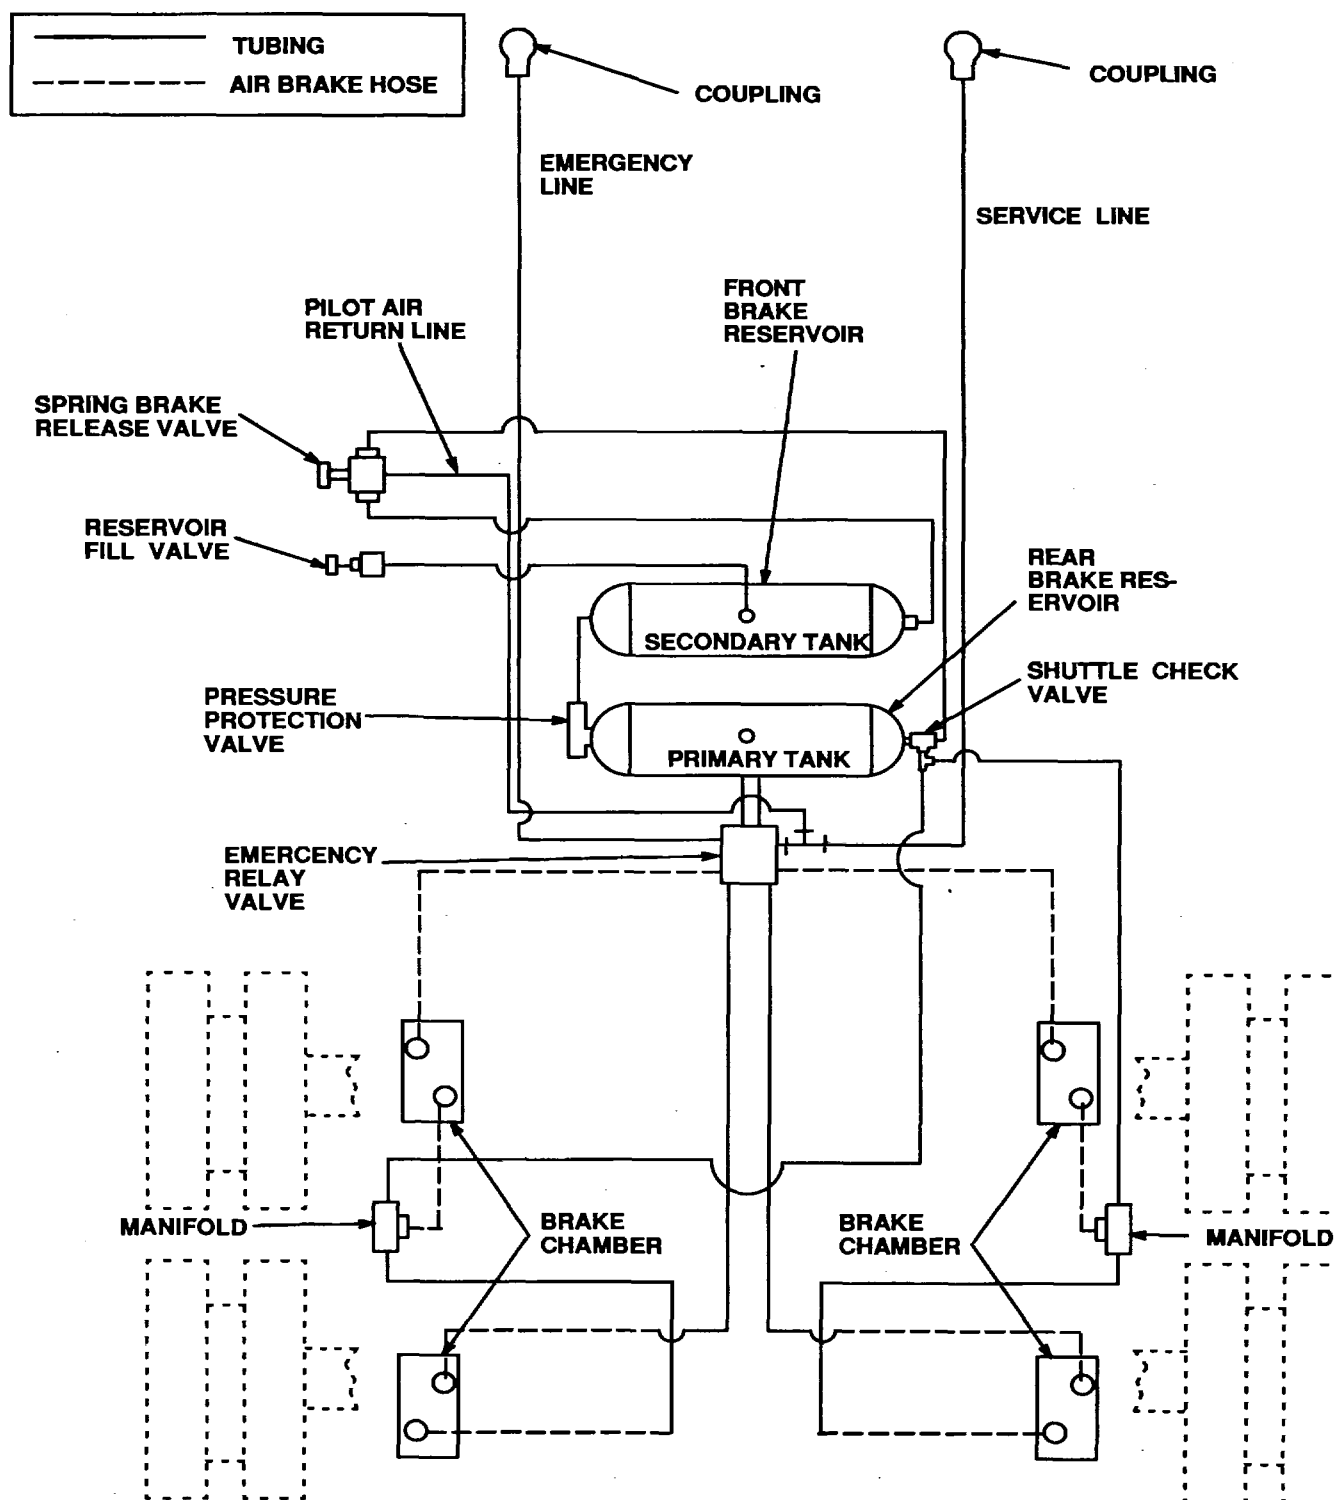

Figure 4-44. Brake Schematic
c. *Brake Air System, Fig. 4-44.* Compressed air is transmitted from the towing vehicle through the service and emergency air lines. When the engine of the towing vehicle is running, air pressure of 90-120 psi is kept in the system through the emergency air line. Compressed air is routed into the rear reservoir through the emergency relay valve. From the rear reservoir, the air enters the front reservoir.
(1) The front reservoir is for the fail-safe brakes. A pressure protection valve between the two reservoirs maintains approximately 75 psi of air in the front reservoir for release of the fail-safe brakes.
(2) When there is enough reserve air in front reservoir, the spring brakes can be released opening a valve on the roadside of the semitrailer.